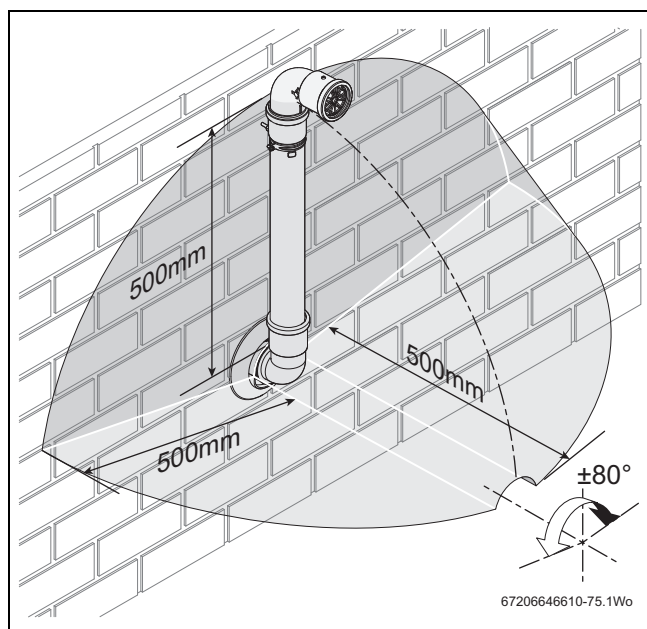

Fig. 22 Terminal exclusion zone
The minimum plume length should be calculated to ensure that the air inlet and exhaust have a minimum distance of 500mm between them (→ figure 22).
- Do not terminate the plume management inside the shaded area shown in figure 22